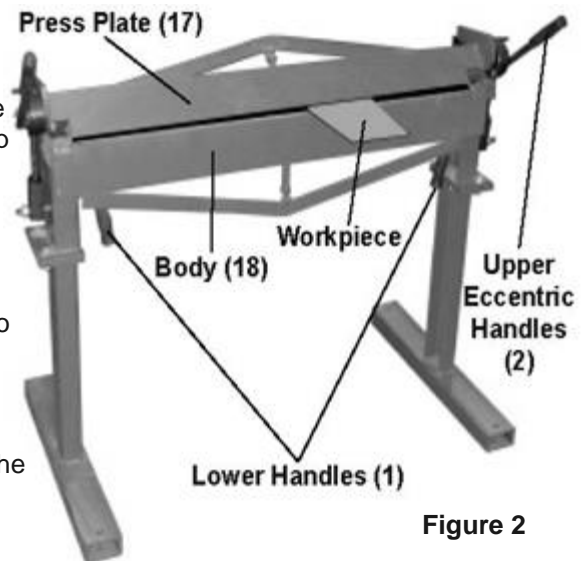

Figure 2
1. Pull the upper Eccentric Handles (2) all the way down before opening the Press Plate Assembly (17).
3. Slide sheet metal to be bent in between the Body (18) and under the Press Plate Assembly (17). Align the scribed bending line with inner lip of the Body. See Figure 2.
4. Lift both Upper Eccentric Handles into the locked position. See Figure 2. This will cause the Press Plate Assembly to clamp down on the stock. If the Handle does not come down all the way and lock, the stock is greater than 12 gauge or the Brake needs to be adjusted to allow for thicker stock. **If so, refer to the Adjustments section.**